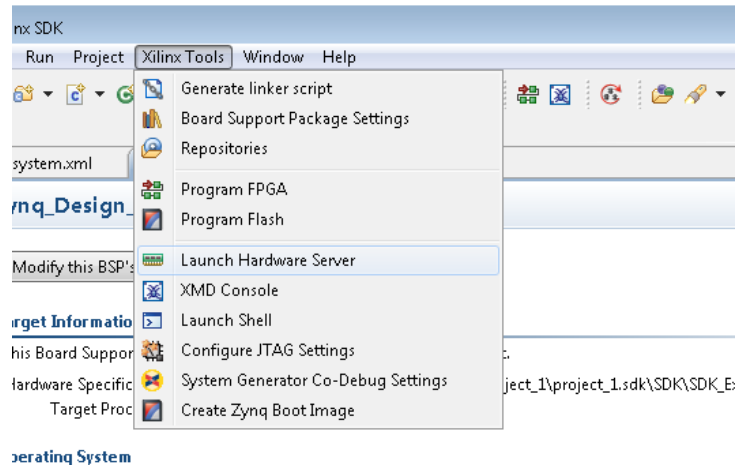

Figure 239: Launch Hardware
9. Click **XilinxTools > Launch Hardware Server** (Figure 239).